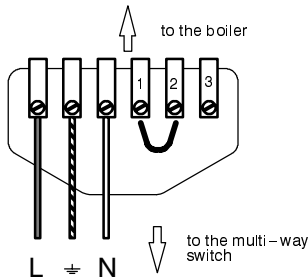

fig. 3.5
- 1 Connect the electrical supply cable coming from the multi-way switch to the supply connector for the boiler (fig. 3.5) keeping the same connections for the live (brown wire) and the neutral (blue wire).